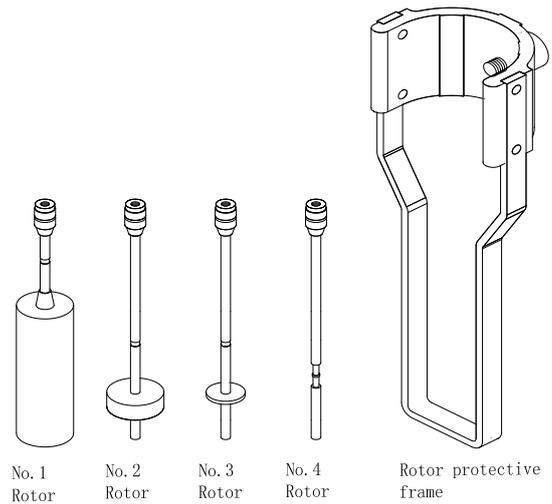
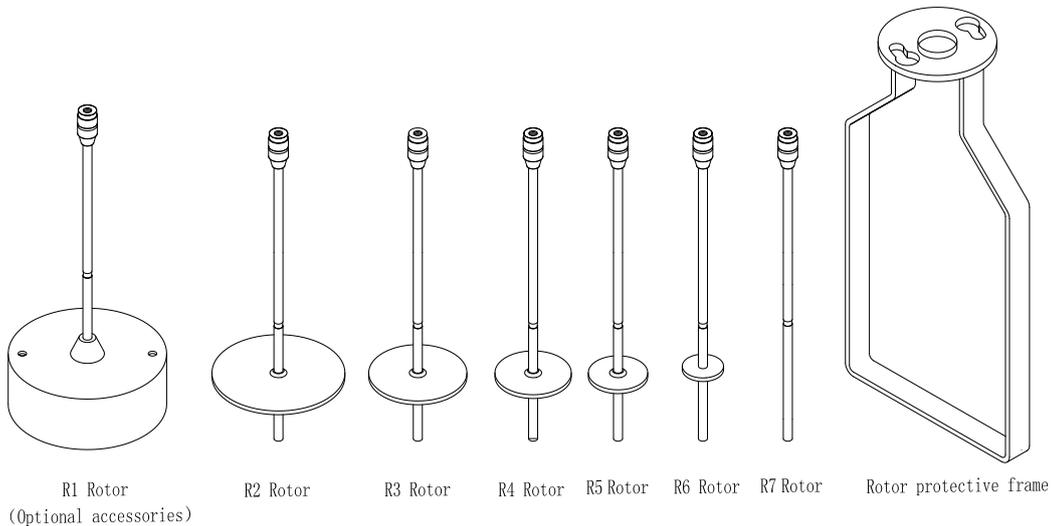

Fig. 3
Fig. 7
(6) The structures of standard rotors #1~#4 for series NDJ/SNB/LVDV viscometers are shown in Fig. 3. The structures of rotors R1~R7 for series RVDV/HADV/HBDV viscometers are shown in Fig. 7. Rotor R1 is optional, and no rotor protective frame is equipped for series HA/HB viscometers.